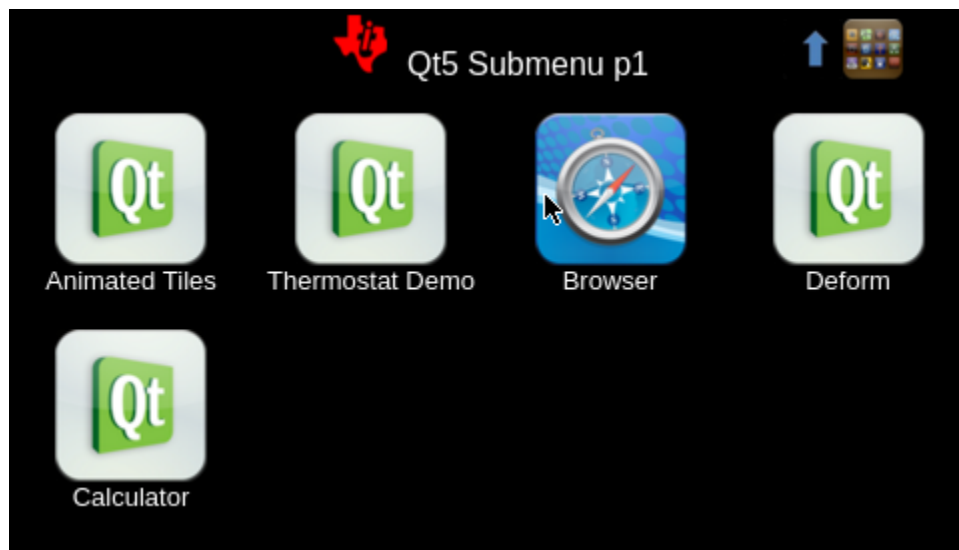

图 7. Qt5 Submenu
2. 图 7 shows the Qt5 Submenu, which is the next screen that appears. Click on the *Thermostat Demo* icon.